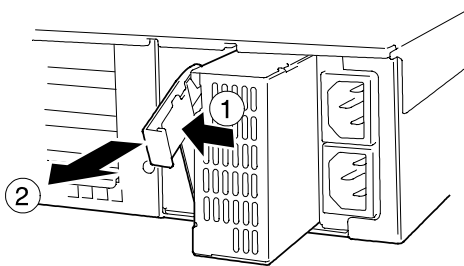

Figure 4-69. Removing a Supply
5. Remove the power supply unit. See Figure 4-69.